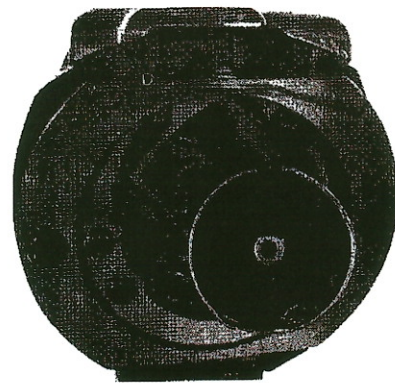

Fig.2.
- Open the shuttle cover spring follower plate c, remove the shuttle cover d and take out the large hooks system (Fig 2), class:kSP-204.